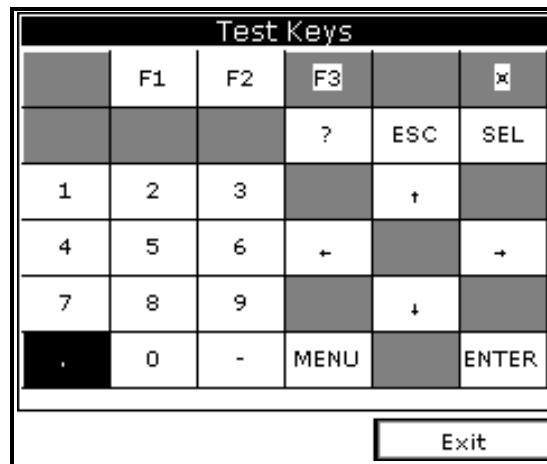

Figure 63: Test Keys Window
- Use the arrow keys to scroll to Test Keys and press **[ENTER]**. The screen appears similar to Figure 63.